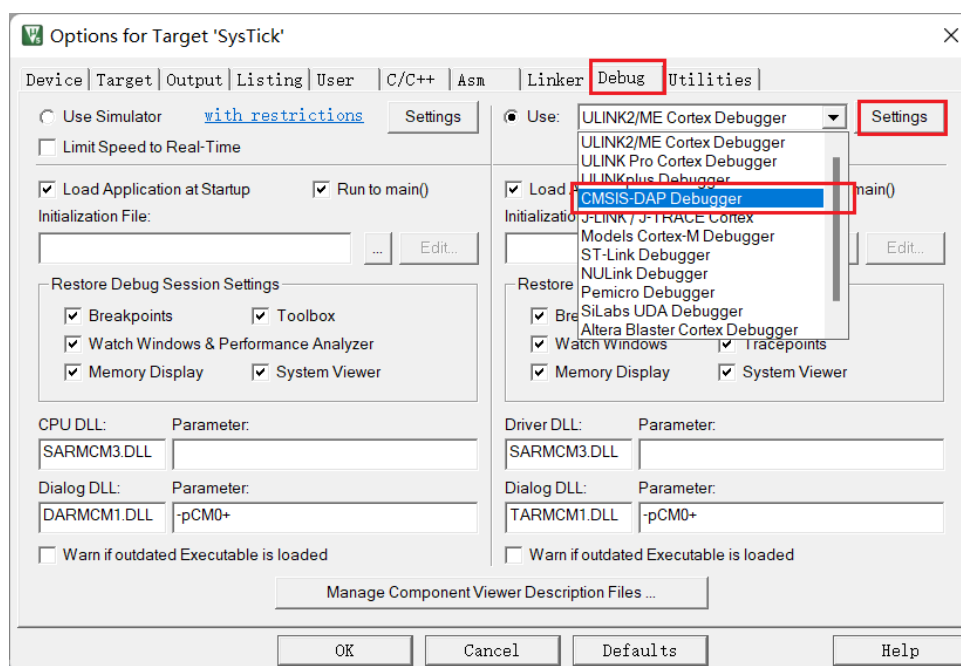

Figure 6
- b) As shown in Figure 6, in the "Debug" option, download and select the simulator as "CMSIS-DAP Debugger" and then select "Setting".